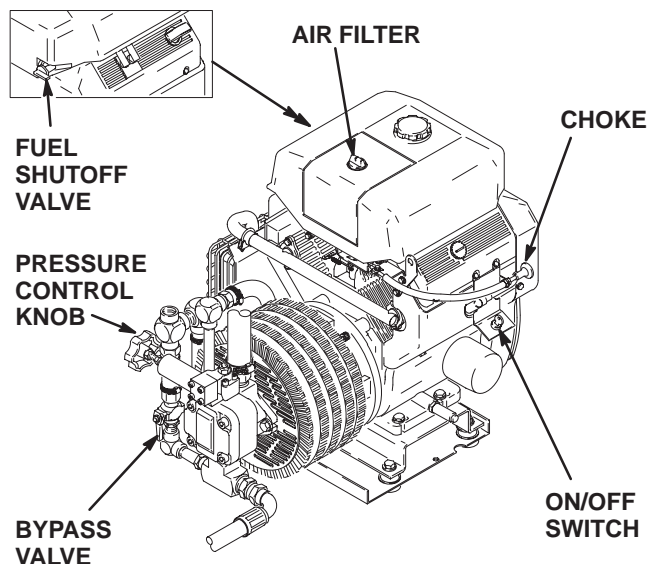

Fig 6
- a. Open the bypass valve to make startup easier. In the open position, the valve lever is parallel to the body of the valve. See Fig 6. Close the filter drain valve.
- c. Open the fuel shutoff valve. See Fig 6.
- d. If the engine is cold, close the choke by turning the lever to the ON position (horizontal). See Fig 6.
3. Turn and hold the ignition key to START until you hear the engine "catch", then release the key to RUN. See Fig 6. If the engine does not start, open the choke a little (push the choke head in). If the engine floods, open the choke all the way and try again.
- e. After the engine is warm, gradually open the choke lever (push choke head in completely) and close the bypass valve. See Fig 6.
**To stop the engine in an emergency, turn OFF the ignition key. Close the bypass valve if possible. See Fig 6. Then follow the **Pressure Relief Procedure Warning** on page 10.**
- f. Squeeze the trigger and *slowly* turn the pressure control knob *clockwise* just enough to start the pump. See Fig 6.